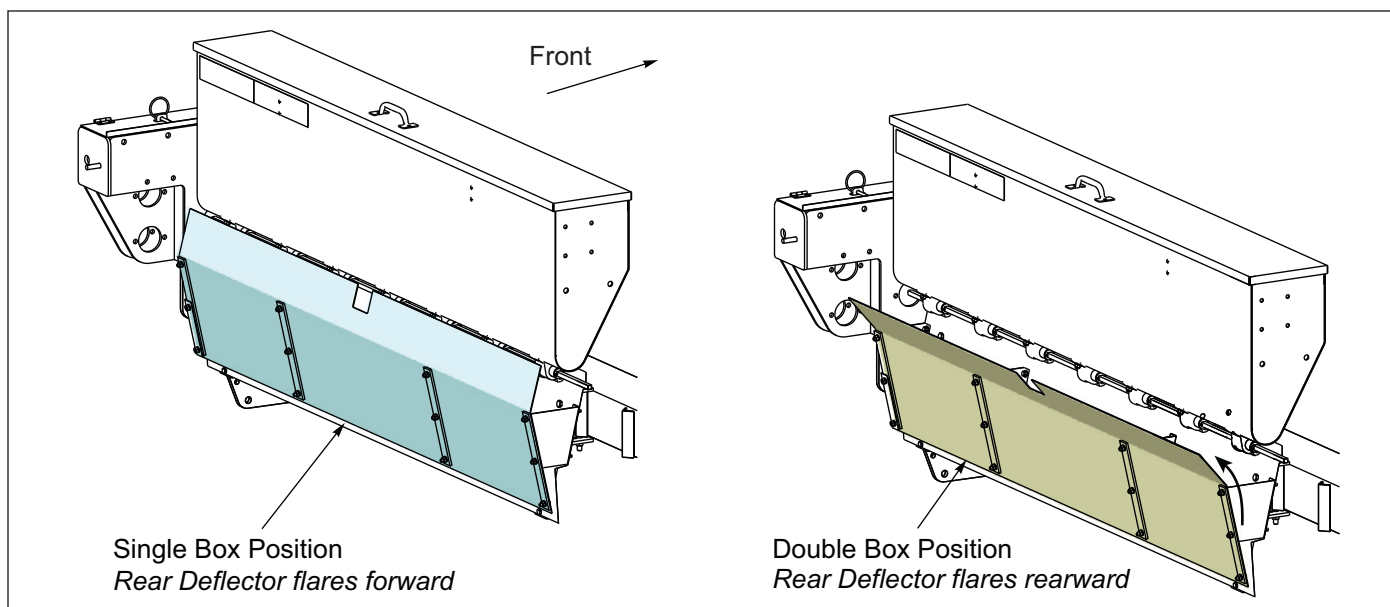

Figure 2-43: Deflector Shield
3. Remove the Rear Deflectors from the Deflector Assembly. Turn the Rear Deflectors around so that the upper lip flares rearward instead of forward. **See Figure 2-43.** Re-install Rear Deflectors to the Deflector Assembly.